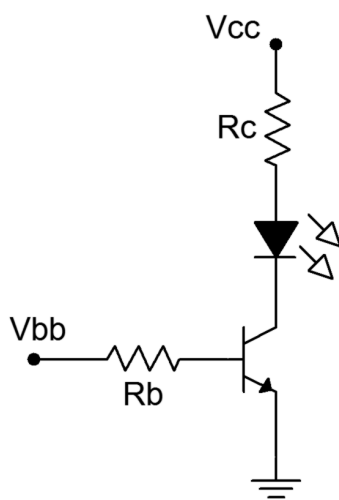

Figure 2
2. Consider the saturating switch of Figure 2 using $V_{cc} = V_{bb} = 5$ volts, $R_b = 4.7\text{ k}\Omega$ and $R_c = 220\text{ }\Omega$. Calculate the base and collector currents and record them in the first row of Table 2 (theory). As the circuit is in saturation, the theoretical V_{CE} is close to zero and may be found on the transistor data sheet via the V_{CE}/I_C saturation graph. Record this value in the first row of Table 2 as well.
3. Build the saturating switch of Figure 2 using $V_{cc} = V_{bb} = 5$ volts, $R_b = 4.7\text{ k}\Omega$ and $R_c = 220\text{ }\Omega$. Measure and record the base and collector currents, and record the collector-emitter voltage in the first row of Table 2 (experimental). Also compute and record the deviations between theory and experimental results.
13. Simulate the circuit of Figure 2 and record the currents and voltage in Table 5.